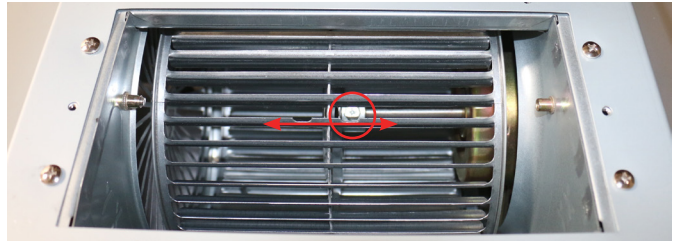

Figure 3 Fixing Screw
- Rotate the fan wheel so that the blade with two small cuts is facing you. (Figure 3)